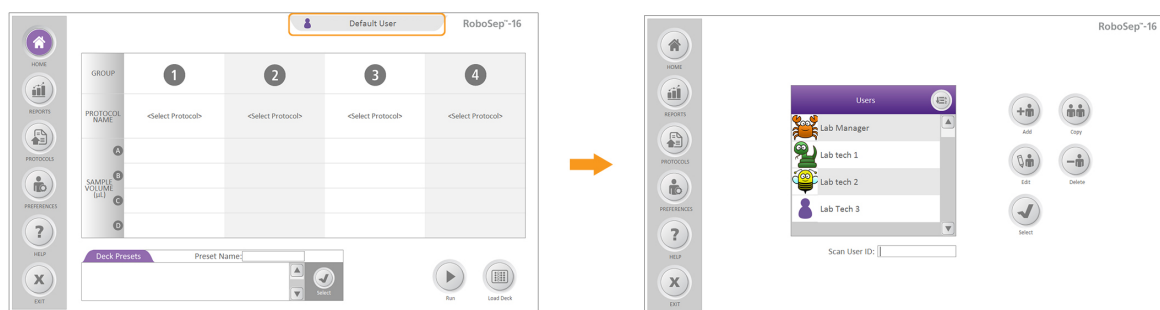

Figure 11. Accessing the User Profile Screen from the Home Screen
To access user profiles, select the User Profile tab on the Home screen. All RoboSep™-16 user profiles will be listed in the User Profile screen (Figure 11).
1. Select  [Add] from the User Profile screen (Figure 11).
1. Select the user profile you want to copy from the User Profile screen (Figure 11). The user will be highlighted in purple.
1. Select the user profile to be deleted from the User Profile screen (Figure 11). The user will be highlighted in purple.
1. Select the user profile to be edited from the User Profile screen (Figure 11). The user will be highlighted in purple.